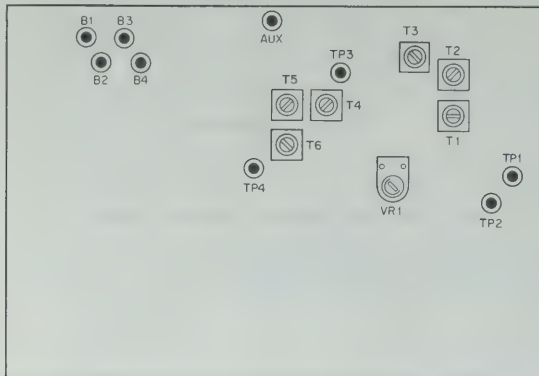

Fig. 41 PD unit
Apply a signal of 8.83 MHz within 106 to 108 dB from SSG between connector terminals CIB and GND and adjust VR1 until the output of RF VTVM connected to TP1 (or TP2) becomes minimum dip (refer to Fig. 41).
- 1) Connect the detector to TP1 (or TP2) in PD unit (X50-1340-00) and connect its output to the oscilloscope (refer to Fig. 41).